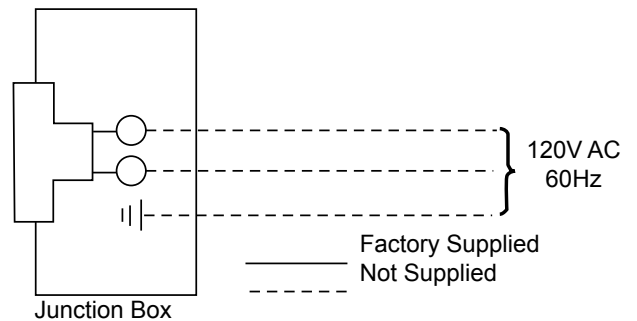

Figure 18 – Junction Box Wiring Diagram
3. The junction box cover has a factory installed “romex” style strain relief connector. After connecting the wires, route the wire leads through this connector. Refer to the wiring diagram in *Figure 18*.